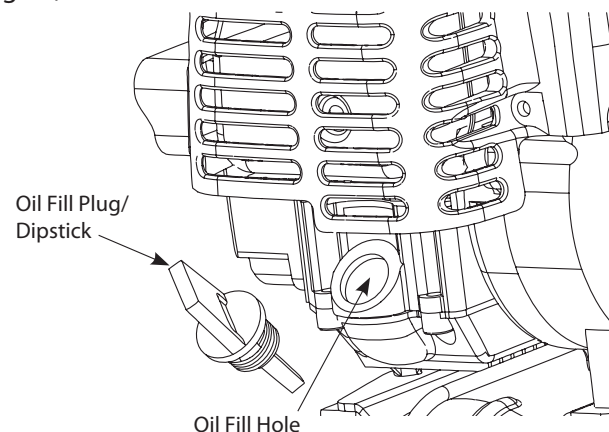

Fig. 18
6. If the level is low, add a small amount of oil to the oil fill hole (Fig. 18) and recheck. Repeat this procedure until the oil level reaches the full mark of the dipstick: